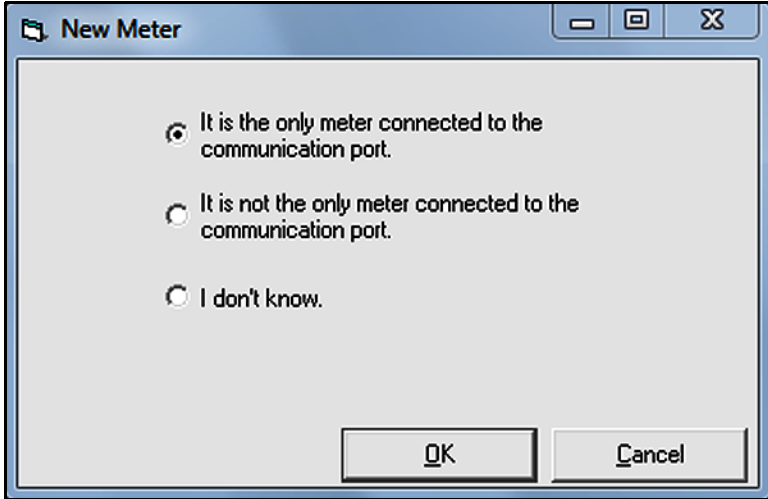

Figure 32: The Only Meter Dialog Box
- After responding to the previous dialog box, the dialog box shown in *Figure 32* below opens. In most instances, users connect their PC to one instrument only via a direct serial cable. Therefore, select the “*It is the only meter connected to the communication port*” radio button and then click on the [OK] button.